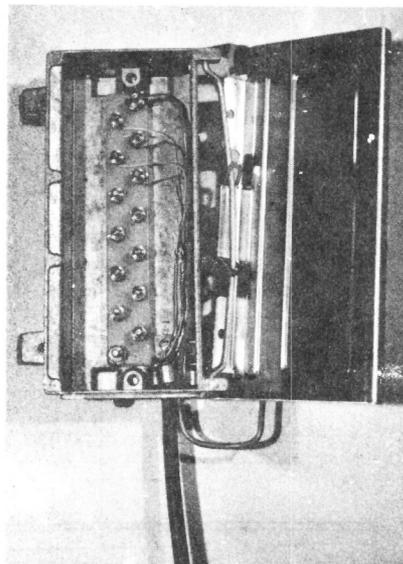

FIGURE 6B
- 6.05 The conductors of the 2, 3 and 6 pair Buried Distribution Wires are terminated in the 104B3-6 Wire Terminal as shown in Figures 6B (2XBWD), 6C (3XBWD) and 6D (6XBWD).